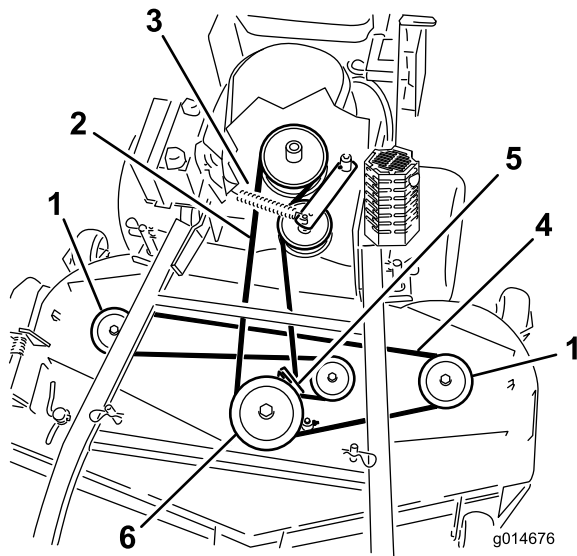
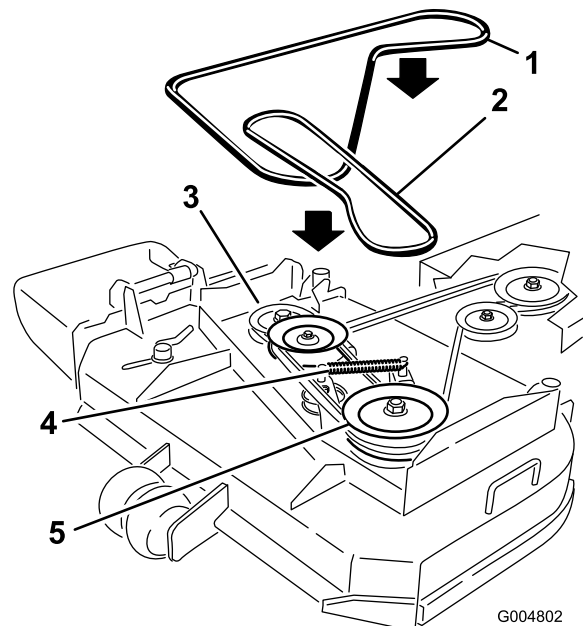

Figure 49
Figure 50
6. Disconnect the idler arm spring to relieve tension on the idler arm and idler pulley, then remove the worn mower belt (Figure 49 or Figure 50).
7. Install the new mower belt around the two outside spindle pulleys, the idler pulley, and in the lower groove of the double spindle pulley (Figure 49 or Figure 50).
8. Connect the idler arm spring (Figure 49 or Figure 50).
10. Adjust the belt guide an 1/8 inch (3 mm) from the belt (Figure 49 or Figure 50).